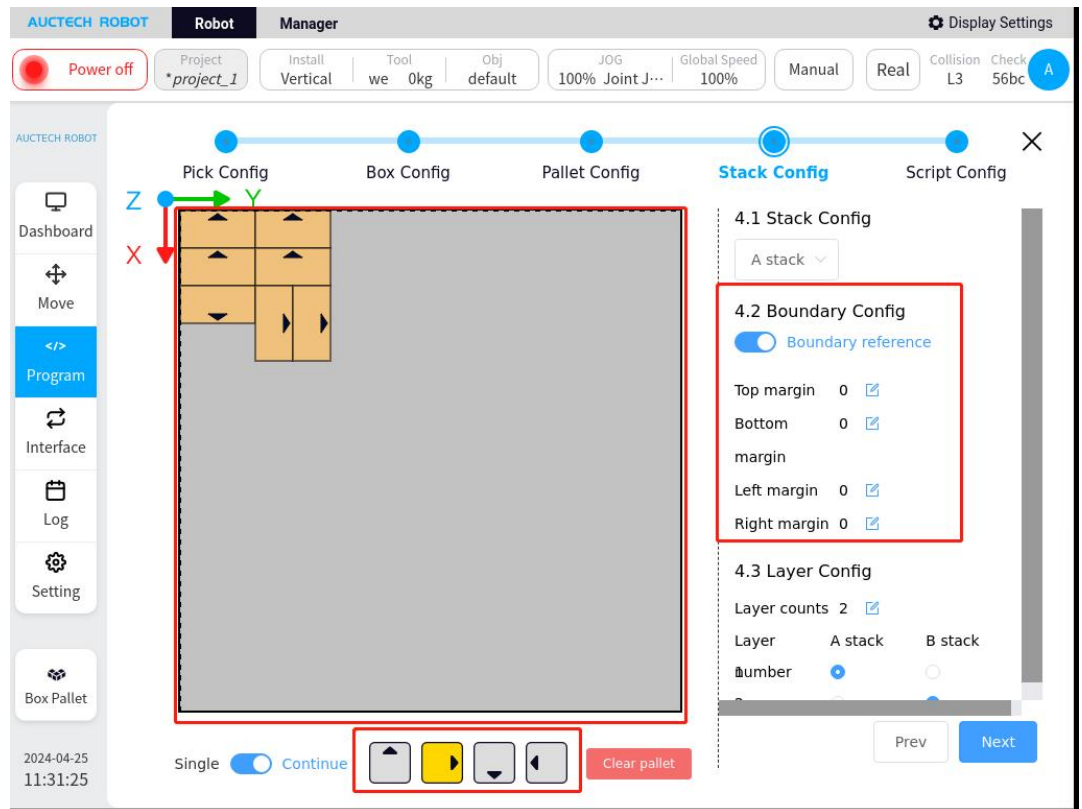

Figure 27
2、 Place the stack type, as shown in Figure 27.
① Position: Click the box button in any direction (it will be highlighted)